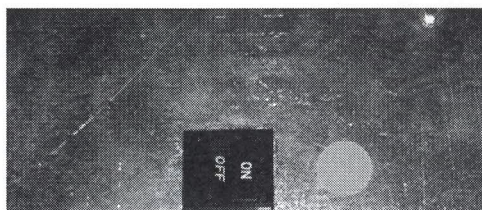

FIGURE 3
8. After replacement is completed, the black dot that is included in this kit needs to be placed to the right of the main power switch behind the upper grille in the machine compartment. (See Figure 3.)